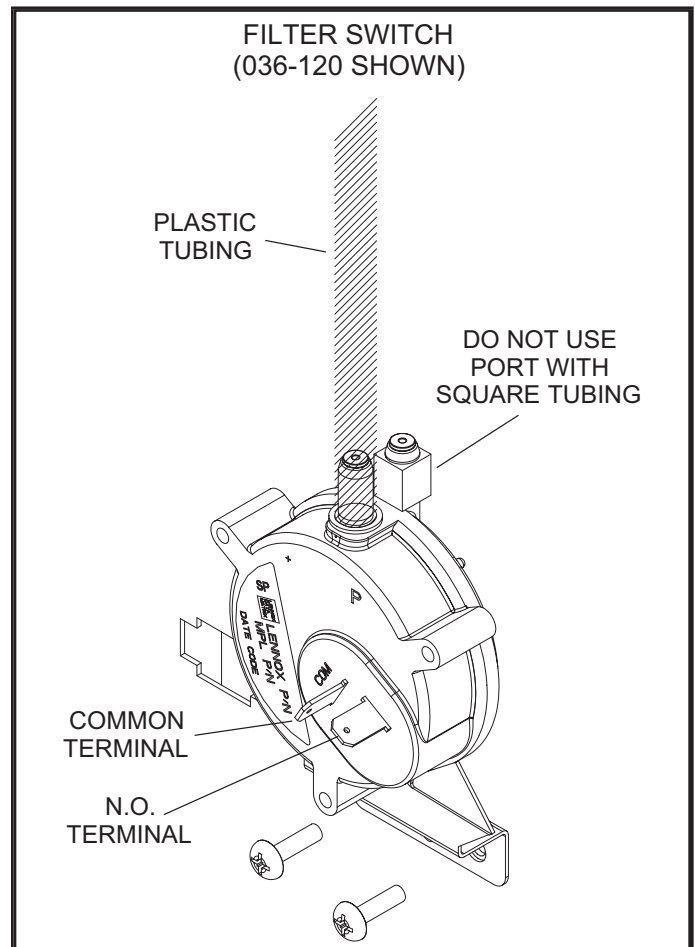

FIGURE 1
- 3 - Connect one end of plastic tubing to the filter switch port. See FIGURE 1. On 092/120 and 180/240 units, cut the 55" tubing (provided) to 42".
- 5 - Locate wires marked S27-C and S27-NO hanging near filter switch. Connect wire marked S27-C to the switch common terminal. Connect wire marked S27-NO to the switch N.O. terminal. See FIGURE 1.